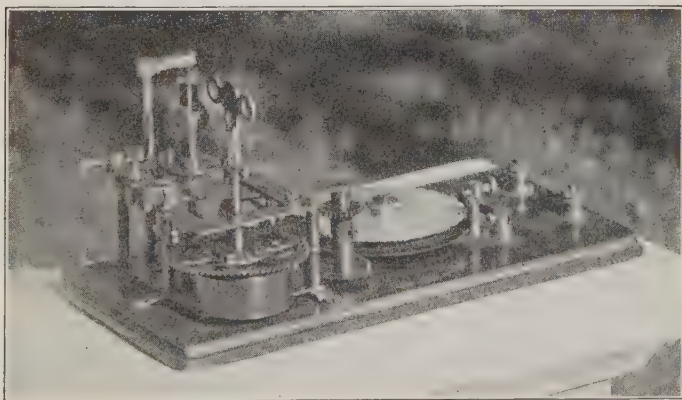

FIGURE 581. — A SPRING MOTOR.
**399. Potential Energy.** — Potential energy is by its nature less easy to recognize than kinetic. A spring under compression or under tension (Figure 581), may resemble another spring unstressed, but the stressed spring possesses ability to do work, as in running a clock or phonograph, while the unstressed spring has no potential energy. A black powder could be made to look like gunpowder and still be inert. Because of the arrangement of the atoms, the gunpowder is able to do a great amount of work when the atoms recombine during explosion. A Leyden